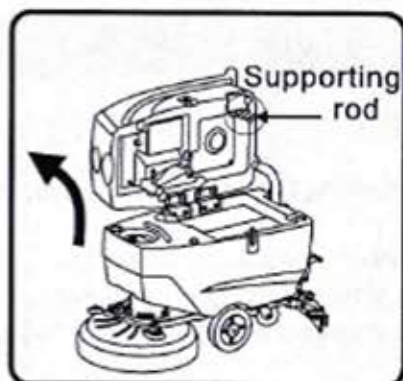

fig.8
3. Tilt open the tank when charging batteries to achieve better heat ventilation(fig.8).(Empty the tank and remove tools left on the cover before tilting.)